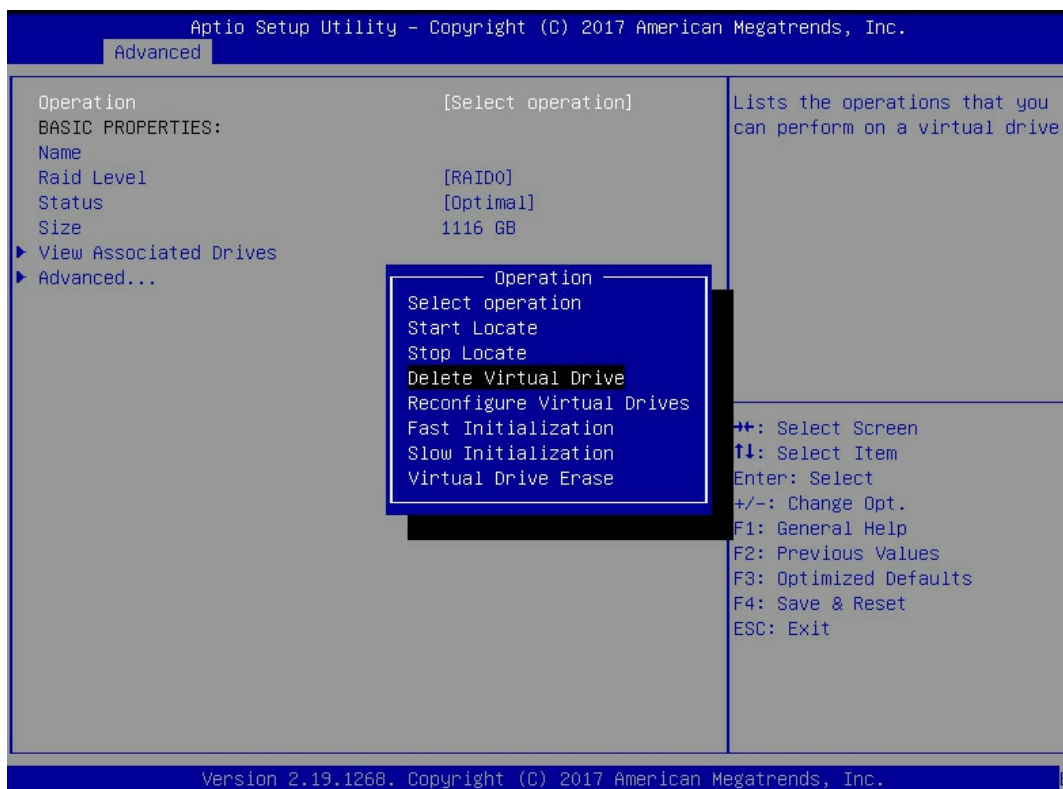

Figure 6-51
c) Enter the interface shown in figure 6-51, select operation, press enter, and then select Delete virtual drive in the pop-up dialog box, and press enter.
✧ Figure 6-51 operation interface